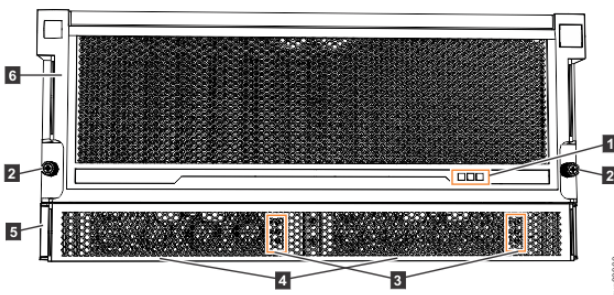

Figure 51. Features on the front of the 5U expansion enclosure
Important: Before you connect the power cables to the rear of the enclosure, always check that the expansion enclosure is secured in the rack. If needed, tighten the thumbscrews on the front of the enclosure (2 in Figure 51 on page 93) to ensure that the enclosure drawer does not roll open.
The 5U expansion enclosure has two power supply units (PSUs) that are accessible from the front of the enclosure (4 in Figure 51 on page 93). As the figure also shows, the PSUs are covered by the 1U fascia (5).
On the front of the enclosure, the indicators on the front display panel and each PSU (1 and 3 in Figure 51 on page 93) are also lit when the power is connected. See “High density expansion enclosure LEDs and indicators” on page 223 for information about the status that is provided by the indicators.